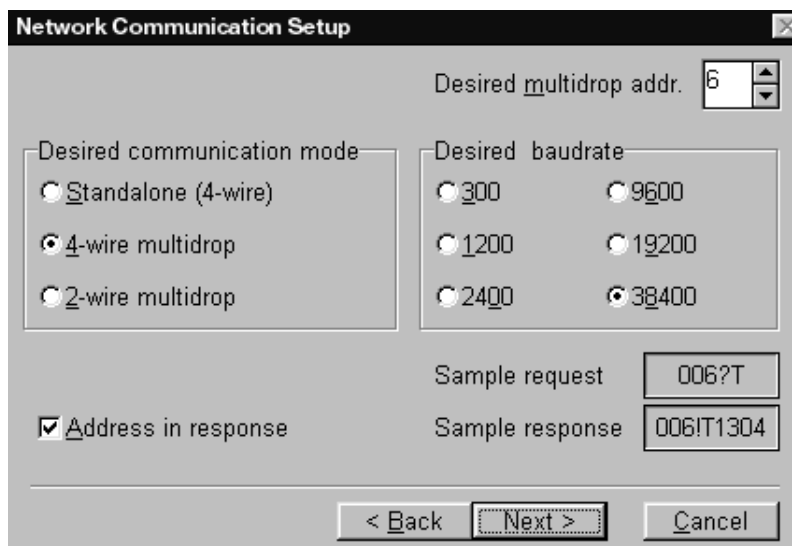

Figure 3-10: Address Selection Screen
- Now you can set the attached sensor’s address (Figure 3-10). Select a number (one not used by another sensor on the multidrop network). Select the desired communication mode, the desired baud rate, and if you want the multidrop address in the response. The desired communications mode need not match the current setup. For example, you may connect a sensor to a 4-wire system, configure it to 2-wire mode, and then move it to the 2-wire system. Click the Next button.